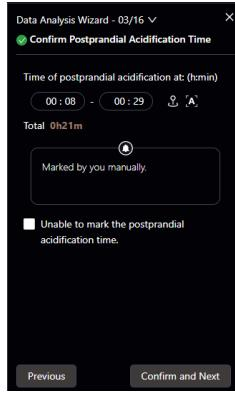

Figure 4-27 Data Analysis – Confirm Postprandial Acidification Time
4) Confirm Postprandial Acidification Time (Figure 4-27). Check if the postprandial acidification time is correct. If incorrect, you can directly input the necessary time in the time edit box, or click [Mark on the graph]  to mark the time on the chart. To restore the time automatically marked by MotiliScan, click [Auto Compute] . If the time cannot be marked, check [Unable to mark the postprandial acidification time]. After confirmation, click [Confirm and Next] to proceed.